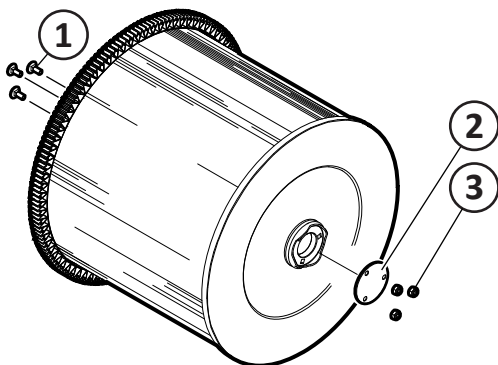
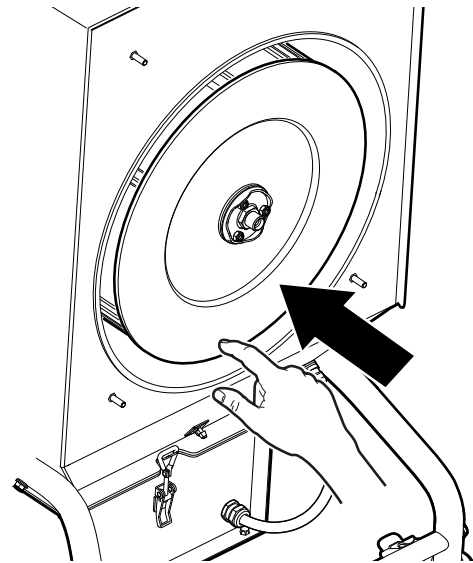
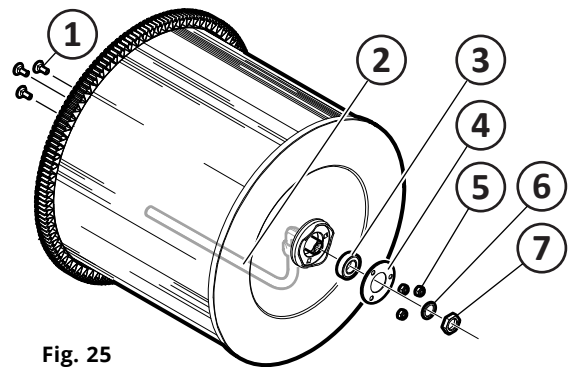

Fig. 23
Fig. 24
Fig. 25
1. Refit the carriage bolts (pos 1, Fig. 23) inside the filter cartridge.
2. Refit the cover plate (2) and secure with the lock nuts (3).
3. Carefully insert the new filter cartridge horizontally until the crank rim drops down from the filter brushes (Fig. 24).
6. Refit the carriage bolts (pos 1, Fig. 25) and nozzle (2) inside the filter cartridge.
7. Fit the bearings (3), refit the cover plate (4) and secure with the lock nuts (5).
8. Screw the nozzle (2) in place with the washer (6) and nut (7).
9. Carefully insert the new filter cartridge horizontally until the crank rim drops down from the filter brushes (Fig. 24).
Dimensions: See **Fig. 25**